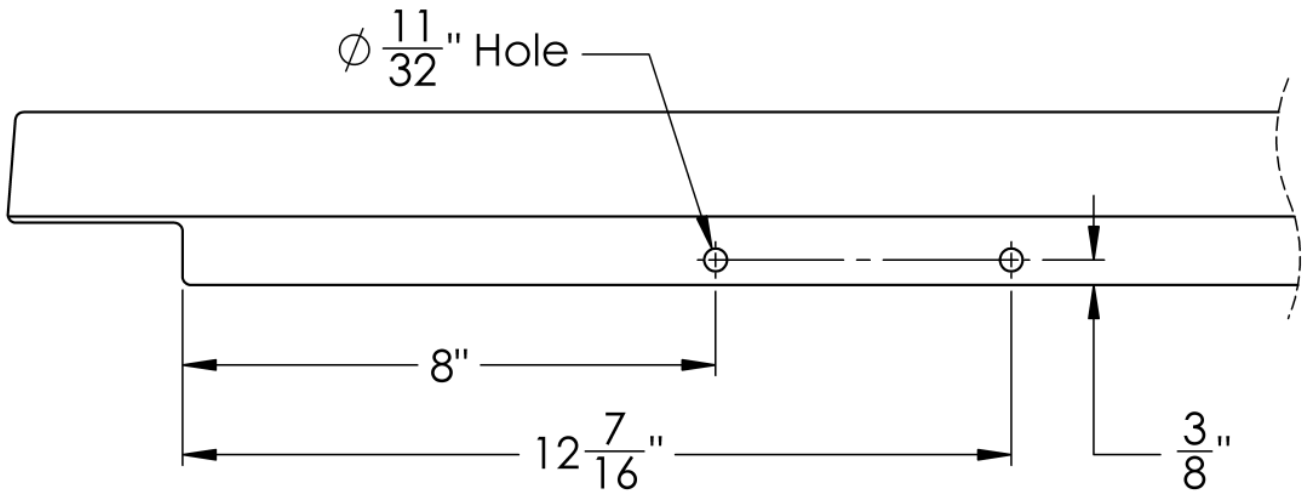

Figure 2: Left side hole locations
**STEP 2:** Using a tape measure and marking device, mark the two left side hole locations as shown in Figure 2.